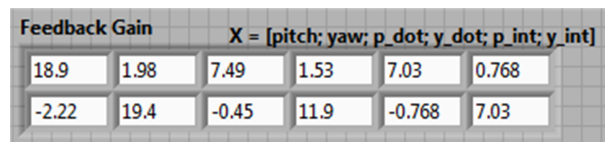

Figure 5.9: Input the feedback gain into the *2D HELI Control Simulation VI*
2. Input the LQR feedback gain K into the front panel of the *2D HELI Control Simulation VI* shown in Figure 5.9.